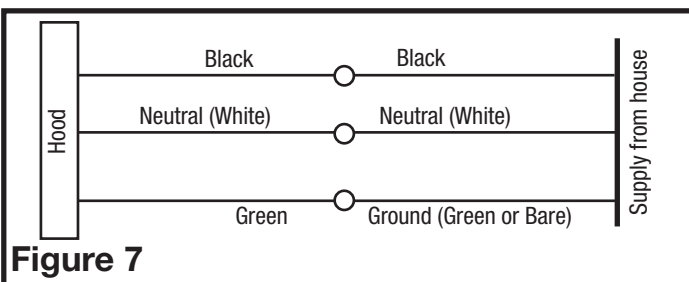

Figure 7
- Connect the 1 loose Black wire from the range hood to the Black wire from the supply, and the 1 loose White wire from the range hood to the White wire of the supply. Connect the ground wire (green or bare) from the supply to the green ground screw of the hood. Use approved methods for all connections (Figure 7).